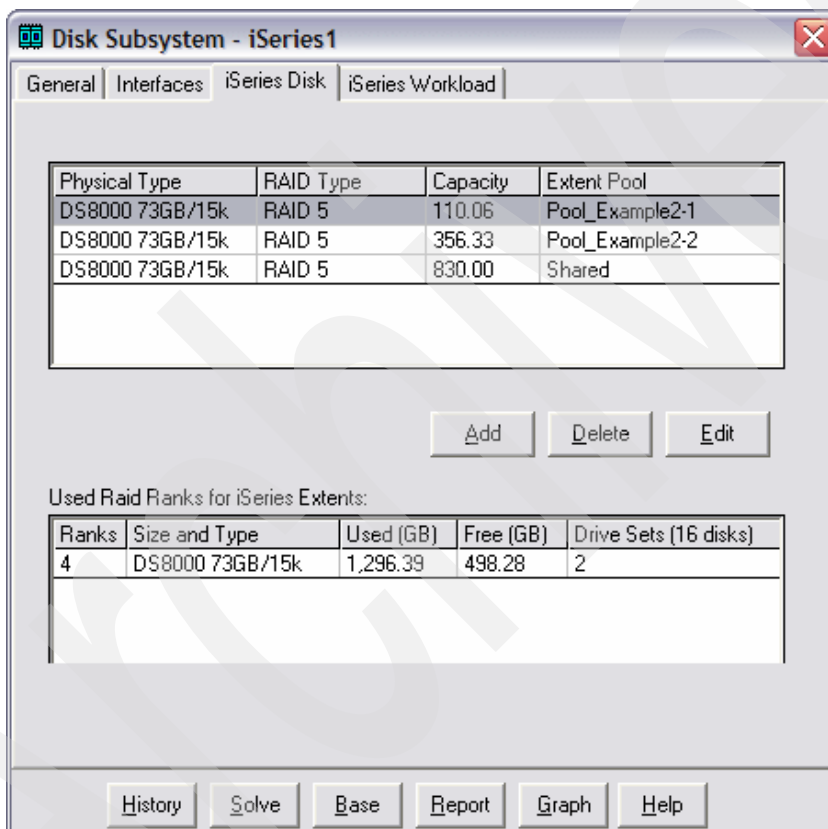

Figure 4-61 Deleting the previous extent pools
- h. The iSeries Disk tab shows the new extent pool along with the two previous extent pools (Figure 4-61). Select each extent pool, and click **Delete**.